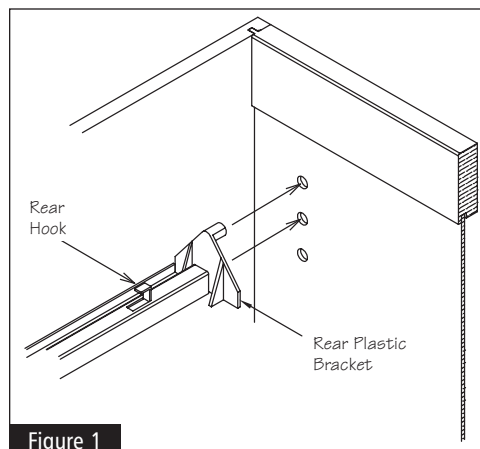
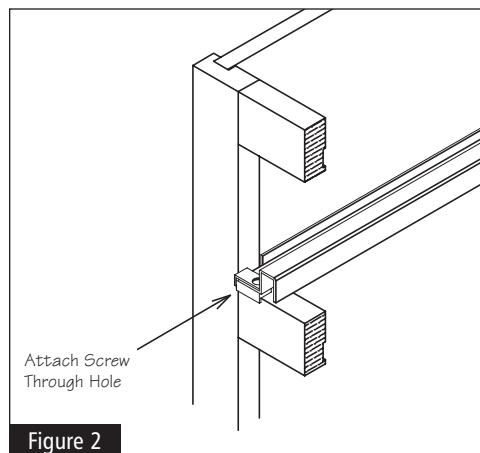

Figure 1
Figure 2
- Plug Full Access Drawer Glides (supplied with kit) to the back of the cabinet, using top two holes (see Figure 1) with the gray clip at the front of the rail against the Front Frame Vertical (see Figure 2).
- Locate rail onto Front Frame Horizontal against Front Frame Vertical and attach rail using (1) 3/4" X #6 screw through rail and into Front Frame Horizontal (see Figure 2).